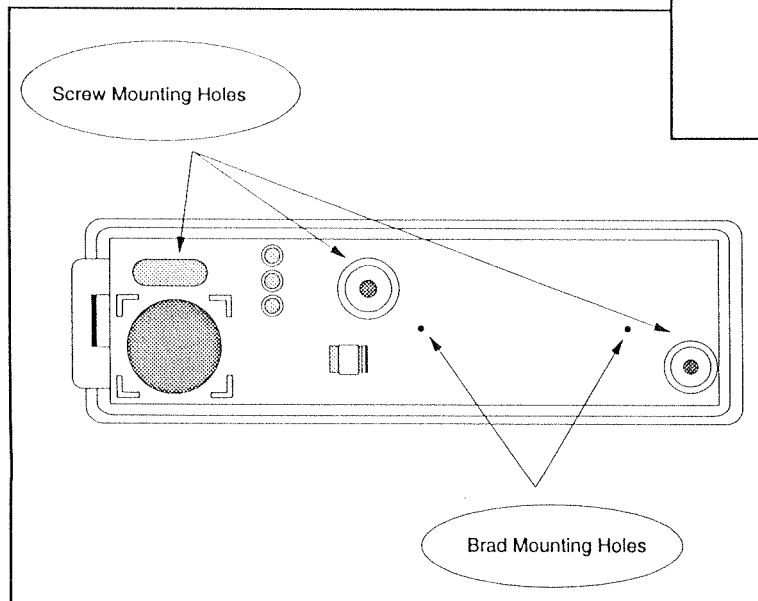

Figure 2. Mounting holes locations
4. Secure the sensor base to mounting surface by using #6 pan head screws or #18 x 1/2 wire nails (brads). If mounting on plaster, use the appropriate fasteners. Use the slotted mounting hole for alignment. (See Figure 2.)